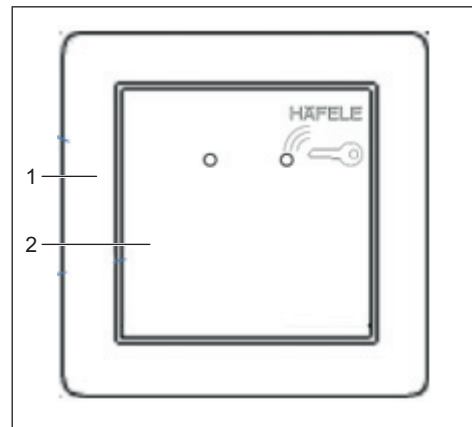

Fig. 17: WRU 220 reader with frame
4. Fix the switch frame (Fig. 17/1) to the switch with the supplied cover (Fig. 17/2).